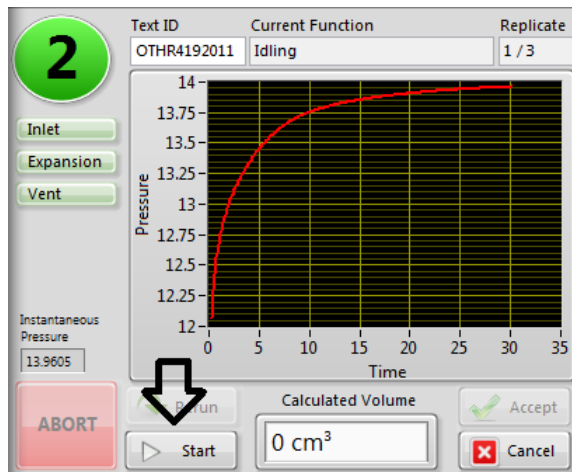

Figure 10. Volume Dry Instrument Interface.
3.	The Volume Dry measurement interface will appear (Figure 10); to begin measurement click Start . This will initiate the pycnometer analysis; the process will automatically run through the total number of cycles selected in Step 2.